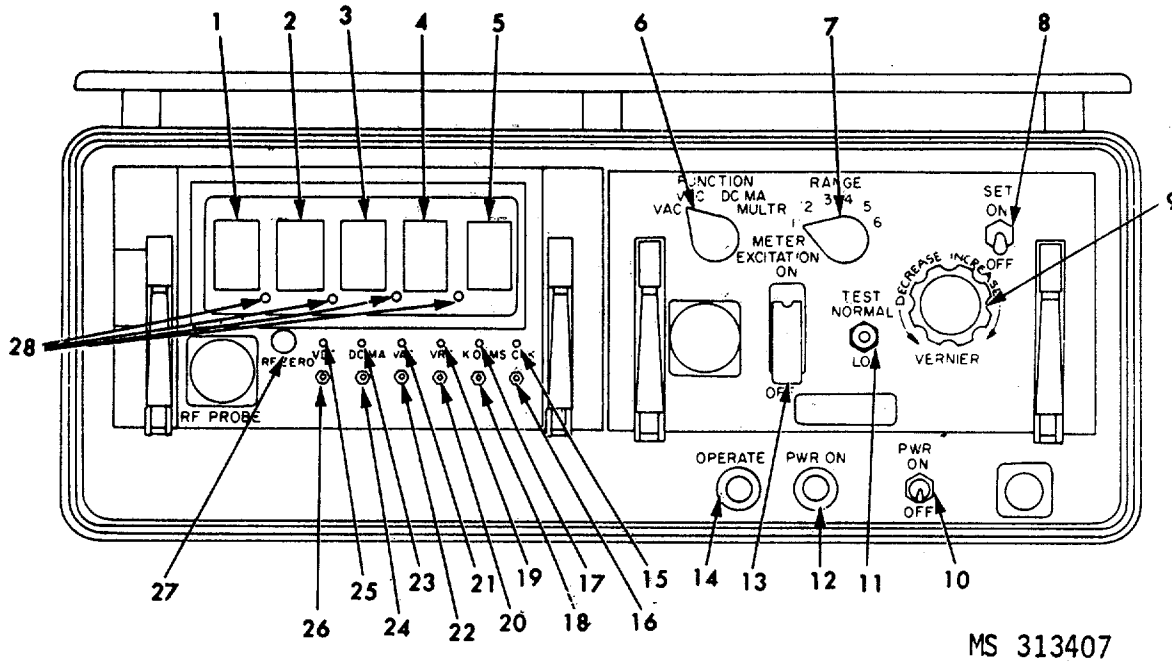

Figure 2-1. Cal std—controls and indicators.
Figure 2-1 and table 2-2 identify and explain the controls and indicators for the cal std.
- c. Whenever a reading of 10 mv RF or less is required, perform steps (1) through (5) below; otherwise proceed directly to step d.
- (1) Connect the rf probe ground clip to the probe tip.
- (2) Adjust the RF ZERO control (27, fig. 2-1) full ccw and record the readout as EI.
Table 2-2. Cal Std-Controls and Indicators (Fig. 2-1)
Table 2-2. Cal Std-Controls and Indicators (Fig. 2-1)-Continued